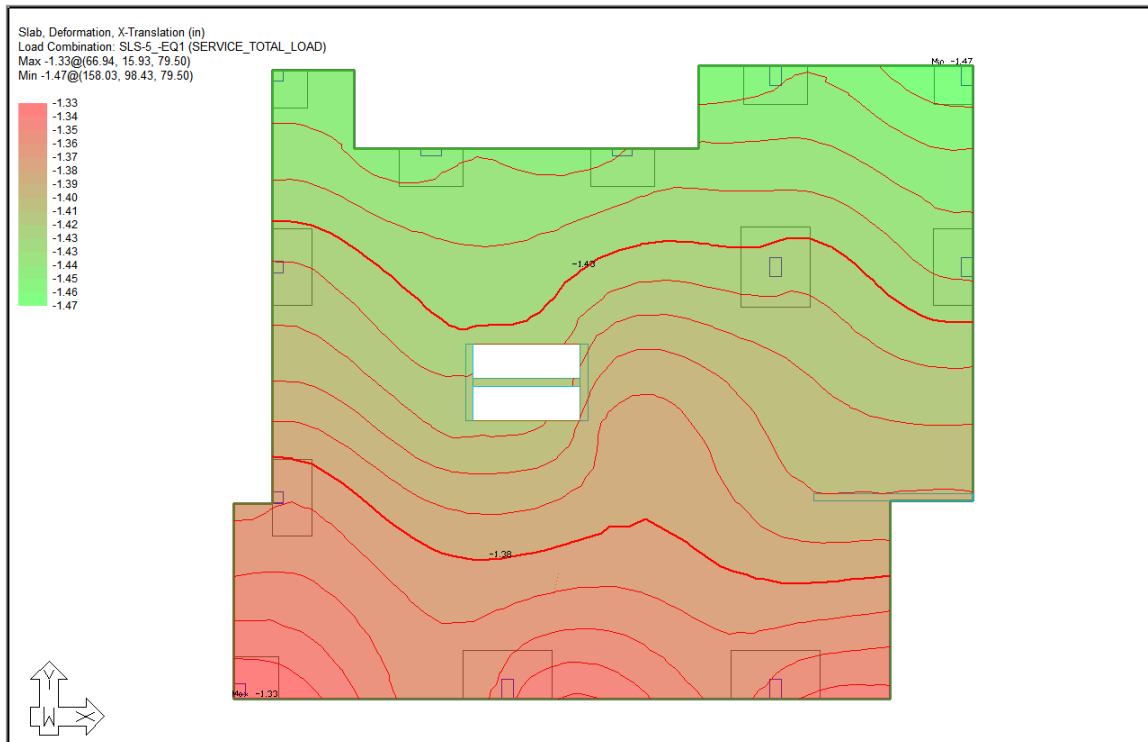

FIGURE 14-5
- In the *Analysis* tab of the *Results View* panel, expand the tree for *Slab* → *Deformation* and select **X-Translation**. You will now see the X deformation as shown in **FIGURE 14-5**.